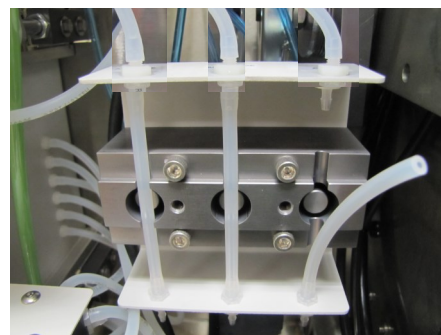

Figure 17
14. Re-install the new (pre-stressed per step 10) silicone tubes into the Enzyme Pinch Valve connecting them to the barbs above and below. See Figure 17.